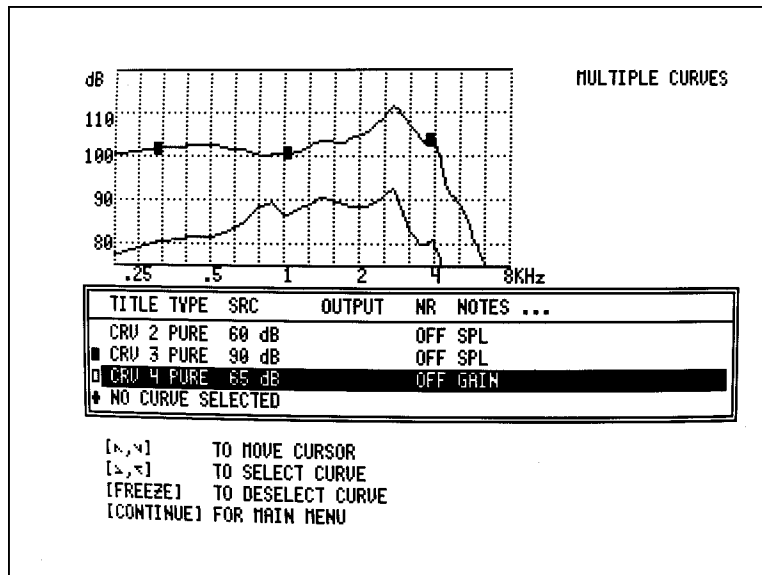

Figure 7.12.5—Multiple curve display
2. Press [START] to run Multiple Curves. You will see the screen shown in Figure 7.12.5. By default, CURVES 1-4 are displayed.